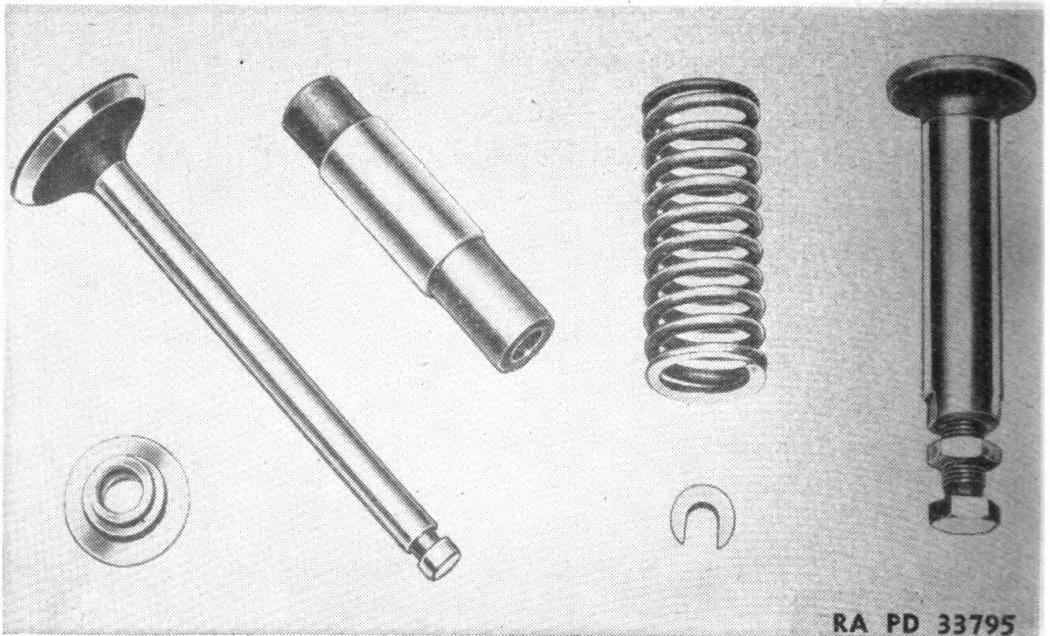

FIGURE 78.—Valve assembly.
73. General.—Although the starting engine uses the L-head valve arrangement and the Diesel the over-head valve arrangement, the general service information regarding valves (fig. 78) for one is much the same as for the other (see par. 22.) Always clean the engine and valve parts thoroughly when reassembling, and check the valve clearance adjustment carefully.